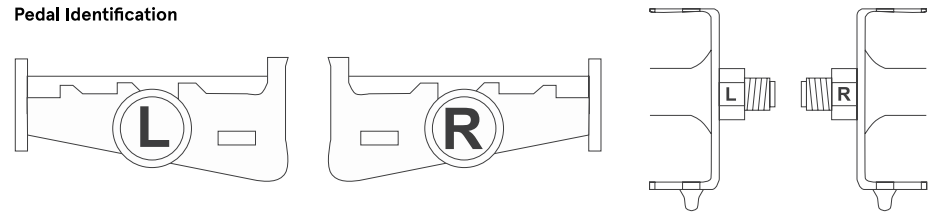
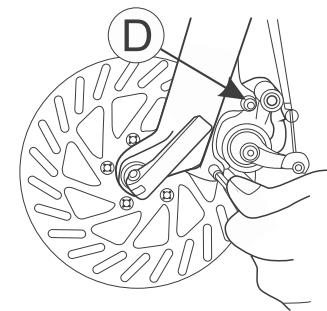

Fig. 14
Fig. 19
Step 5: Installing Pedals (Refer to Fig. 14)
To install new pads, remove the brake caliper from the fork or frame by unscrewing hex bolts D (Fig. 19). Unscrew (left/counterclockwise), the smaller hex bolt inside allen bolt B (Fig.14). Lift up and pull the inner pad downward, using the protruding tab. Slide a thin slot screwdriver under the outer pad and lift it up. Hold the screwdriver in this position and remove the pad with a pair of long-nosed pliers.